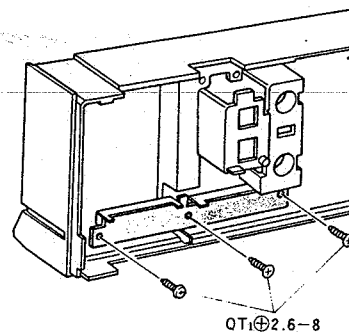

Fig. 19
- 1) Remove 3 screws. (See figure 19)